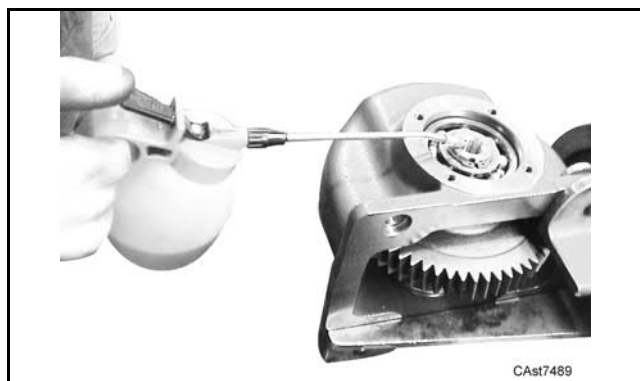

**fig. 10**
20. Assemble the washer (25).
21. Assemble the bearing (26) by using the special tool CA715843 and a hammer.
**See:** fig.10 and E.1 (4WD S.A.H.R. drop box)